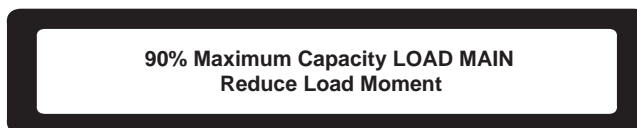

Figure 26. 90% Overload Screen
- 1) The 90% overload screen (figure 26) will appear and the alarm beeper will beep slowly.
- 2) After approximately 10 seconds, the 90% overload screen (figure 26) will be replaced by the primary operating display screen (figure 25). At this time, the primary operating display screen's bar graph display (figure 25, item 4) will flash and the alarm beeper will continue to beep slowly.